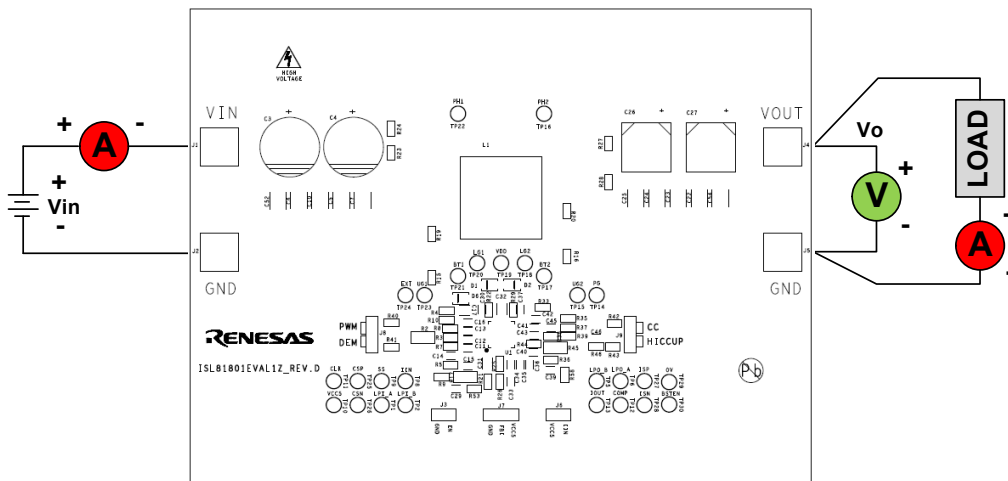

Figure 4. Proper Test Setup
As shown in Figure 4, 9V to 80V VIN is supplied to J1 (+) and J2 (-). The regulated 12V output on J4 (+) and J5 (-) can supply up to 10A to the load. Due to the high power efficiency, the evaluation board can run at 10A continuously without airflow at room temperature ambient conditions.
1. Jumper J8 provides the option to select PWM or DEM. Jumper J9 provides the option to select constant current limit or HICCUP. See Table 2 for the operating options. Ensure that the circuit is correctly connected to the supply and electronic loads before applying any power. See Figure 4 for proper setup.